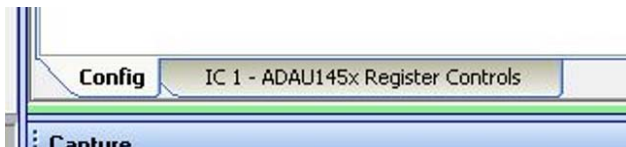

Figure 34. Selecting the **IC 1 - ADAU145x Register Controls** Tab
- Click the **Hardware Configuration** tab, then click the **IC 1 - ADAU145x Register Controls** tab at the bottom of the window (see Figure 34).
3. Click the **ROUTING_MATRIX** tab in the register controls tab shown in Figure 34 to allow users to configure the routing matrix (see Figure 39).